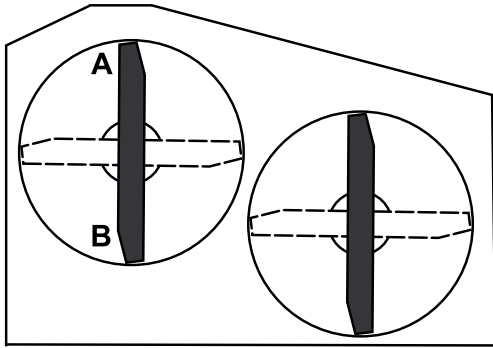

Figure 59
2. Position one blade front-to-rear. Measure at **A** and **B** locations from a level surface to the cutting edge of the blade tips (Figure 59).
4. Position the blades front-to-rear. Measure at C and D locations (Figure 59) from a level surface to the cutting edge of the blades.